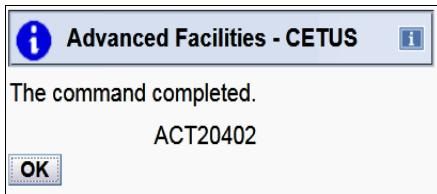

Figure 7-24 Import file successful
8. The next window (Figure 7-24) indicates that the source file import is complete. Click **OK** to continue, then remove the USB flash drive.